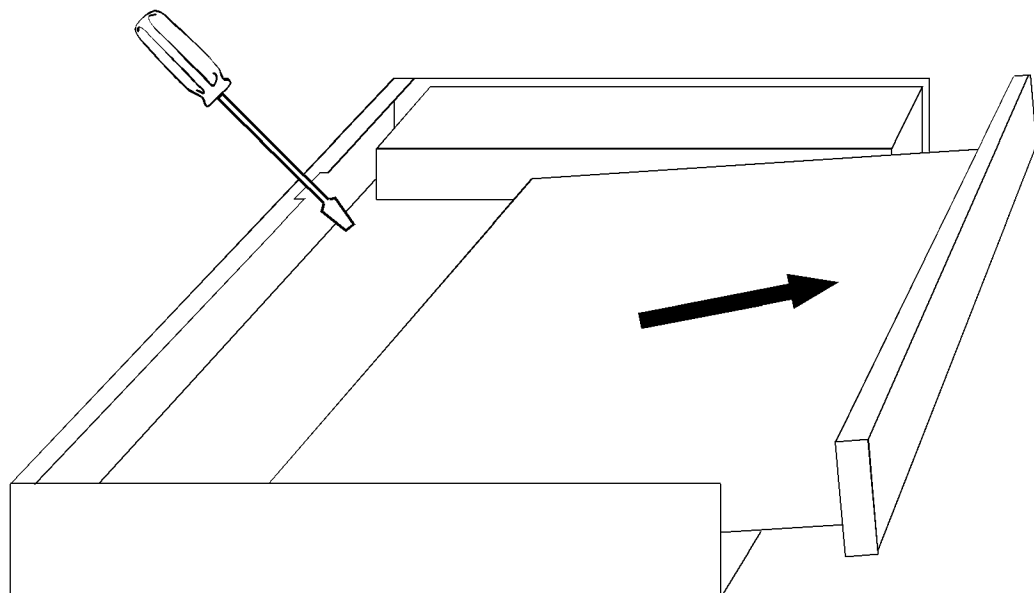

Figure 6-8. Removing the ICM
3. While grasping the bezel with one hand and the rear of the chassis with the other hand, disengage the ICM backplane connector from the backplane socket (see Figure 6-8). You can use the lip of the chassis directly above the backplane for leverage if necessary. If the ICM does not come away from the backplane easily, use a large, flat-head screwdriver placed in the notch in the chassis lip to gently pry the ICM out of the backplane connection.
4. While grasping the bezel with one hand and the rear of the chassis with the other hand, engage the ICM backplane connector with the backplane socket (reversing the procedures illustrated in Figure 6-8).